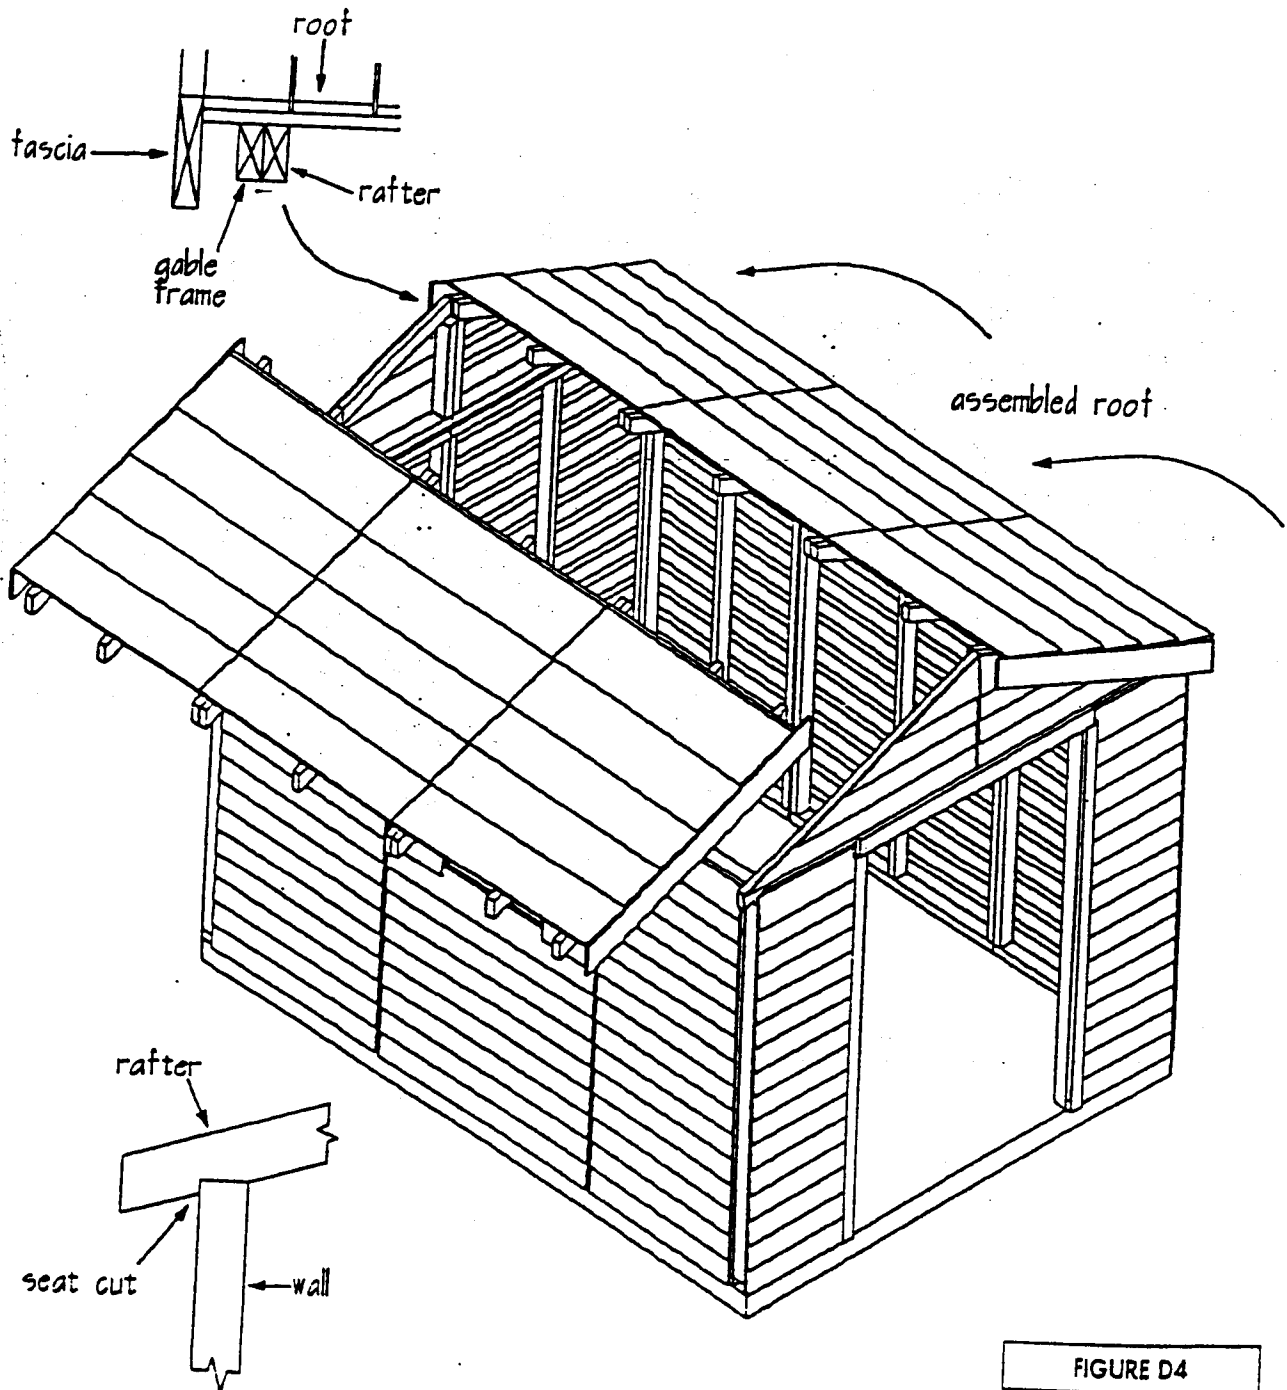

FIGURE D4
4. With your helper, hoist the completed roof sections up onto the structure. The rafter seats should drop onto the wall frame, and the end rafter should sit properly just inside the gable frame [see Figure D4]. Place the other roof section on and, when you are satisfied with the fit, begin screwing down the roof. Toe-screw from the inside, where the seat cut meets the wall. Likewise, fasten the rafters to the gables.